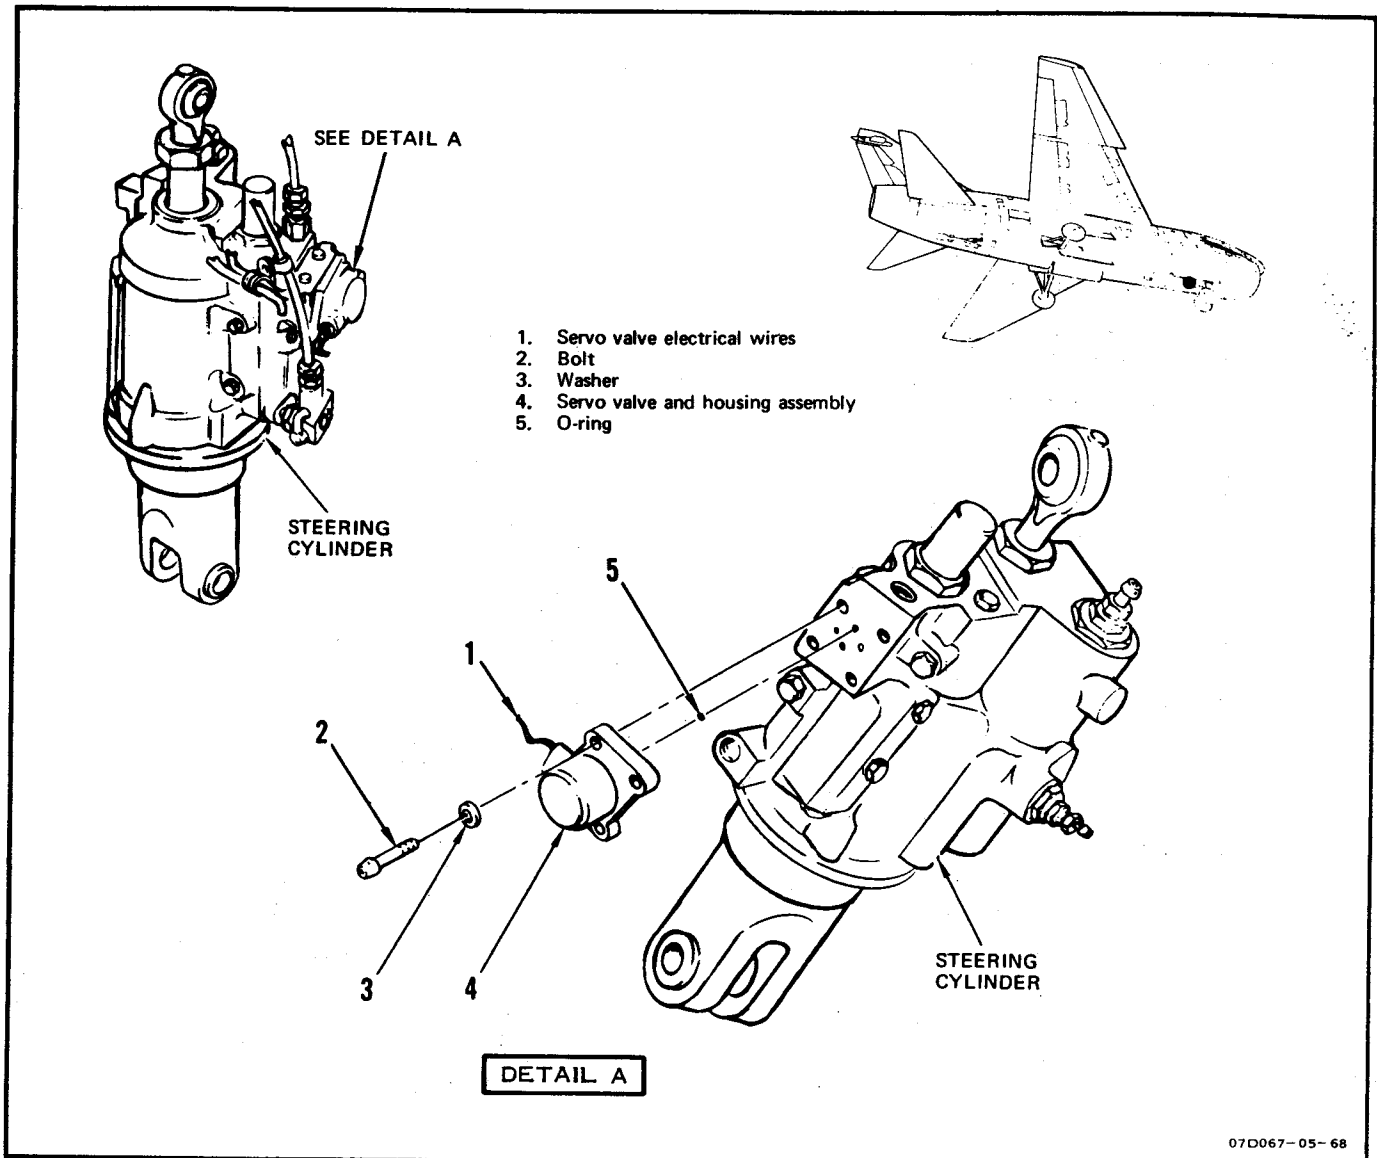

Figure 6-12. Nose Gear Steering Servo Valve Removal and Installation
- 6-29. REMOVAL. (See figure 6-12.)
- a. Tag and disconnect steering servo valve electrical wires (1) from airplane and free wires from wiring bundle and clamps.
- b. Remove mounting bolts (2) and washers (3) and remove servo valve (4) from airplane.
- c. Remove O-rings (5) from servo valve ports.
**6-30. INSTALLATION. (See figure 6-12.)**
- a. Install new O-rings (5) at servo valve ports.
- b. Position servo valve (4) on nose gear steering actuator with locating pin engaged with locating hole and secure with washers (3) and bolts (2). Secure bolts with MS20995C32 lockwire.
- c. Insert servo valve electrical wiring (1) through wiring clamps, secure to wiring bundle, and connect to airplane as tagged.